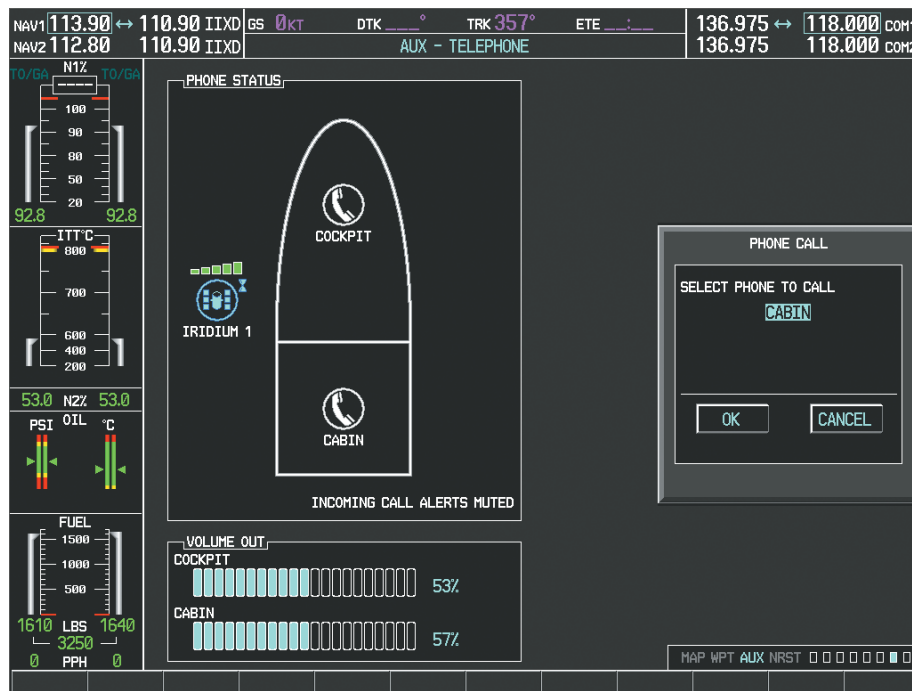

Figure 8-81 Initiating an External Call
- 2) Select the **DIAL** Softkey on the MFD. A display similar to Figure 8-81 will be shown.